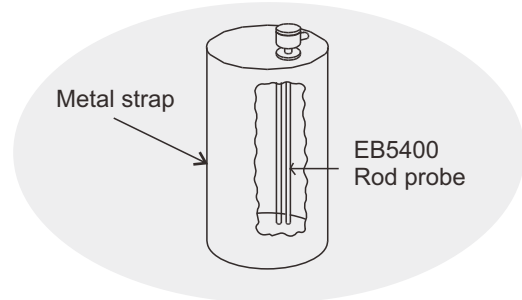
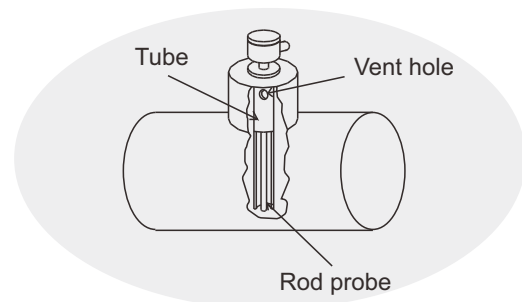

Fig. 1
Fig. 2
1. Please choose Two Rod Probe type for non conductive tank (Fig.1), or install a concentric circles metal pipe shield with vent hole at the top outside the probe (Fig. 2)
3. If the container is irregular-shaped, such as a cylindrical, and the medium is liquid with low viscosity, the rod should be placed inside a concentric circles metal pipe shield with vent hole at the top.(Fig. 2)